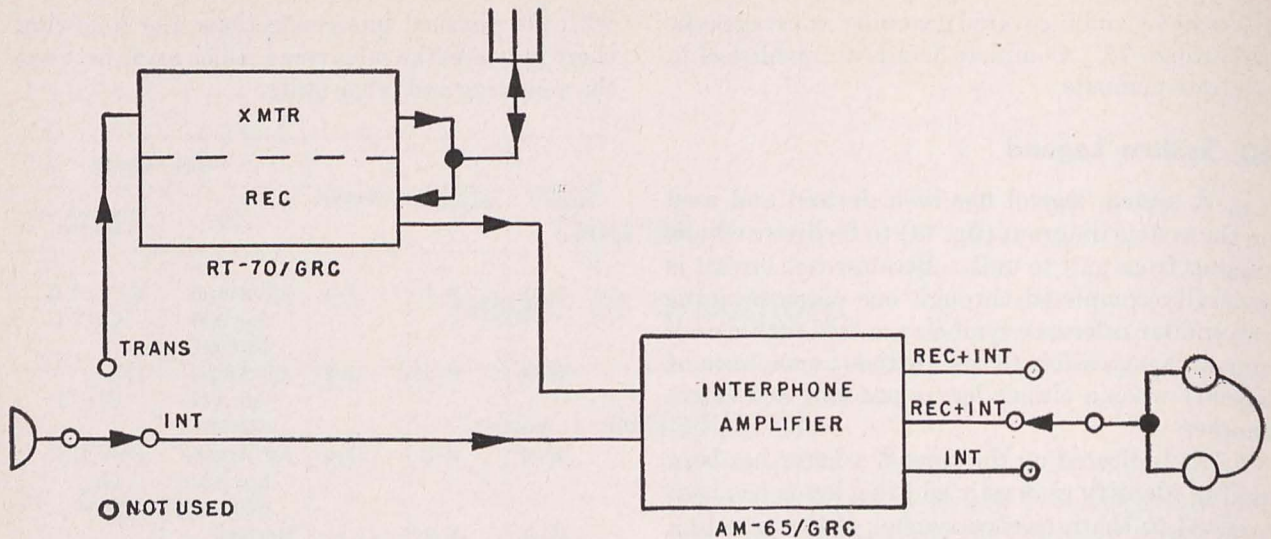

Fig. 34. Basic system block diagram.
a. The basic units of Radio Set AN/VCR-7 are a receiver-transmitter and the interphone amplifier, with speech-input and monitoring facilities as shown in figure 34. These basic units are the essentials of the system and the power supply, cables, mounting, and accessory equipment are supplied to make the basic units perform their function of transmitting, receiving, and monitoring.